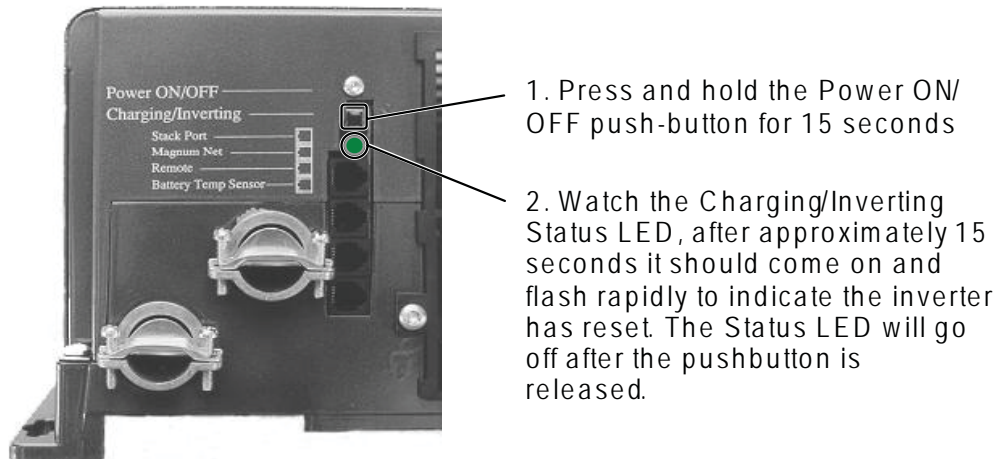

Figure 6-1, Performing an Inverter Reset
Press and hold the Power ON/OFF pushbutton (see figure 6-1) for approximately fifteen (15) seconds until the Charging/Inverting Status LED comes on and flashes rapidly; once the rapid flashing has begun, release the Power ON/OFF pushbutton. The Status LED will go off after the pushbutton is released.